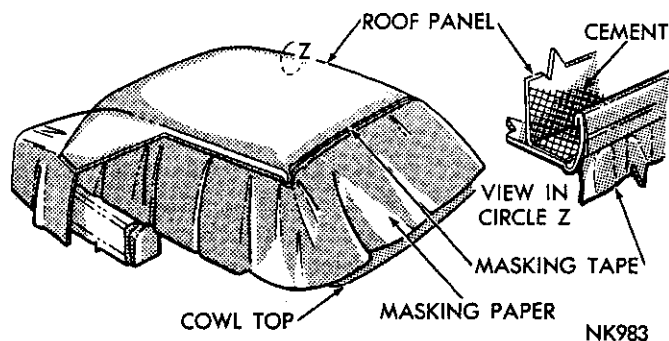

Fig. 1—Masking the Body—Sedan
(1) Mask body (Fig. 1) from edge of drain trough across upper "A" pillar, windshield and rear window reveal, top of deck upper and bottom of roof panel at belt line.
(2) Locate and mark center line of roof panel and vinyl cover at front and rear ends.